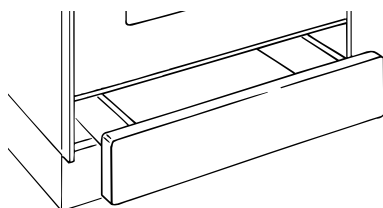

Fig. 5b Removing the drawer
- Remove the drawer (Fig. 5b).